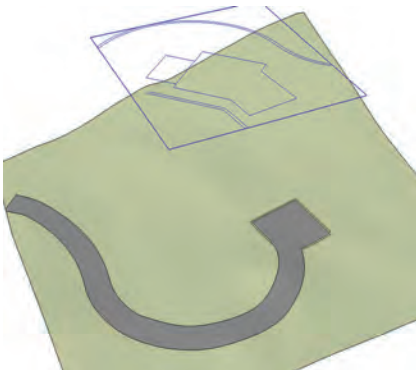

Fig. 15-15: Turn on the Wall and Building layers.
1. Turn on the Wall and Building layers. They will be modeled next (Fig. 15-15).